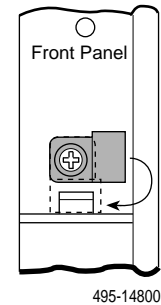

Figure 2-5. Circuit Pack Lock
1. Turn the circuit pack lock until it is vertical, locking the 3821Plus card in place. See Figure 2-5.